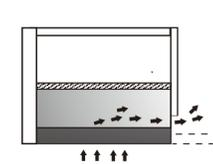
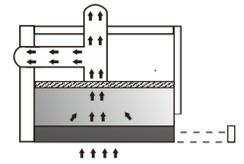

Fig.14
Fig.15
- The hood may be installed in the filtering(Fig.14) or the ducting version(Fig.15).